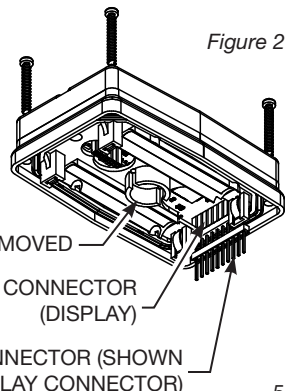

Figure 2
5. Insert the “long legs” of the 10 pin male connector that came with the kit into the 10 pin female connector on the QSI circuit board (see Figure 2).